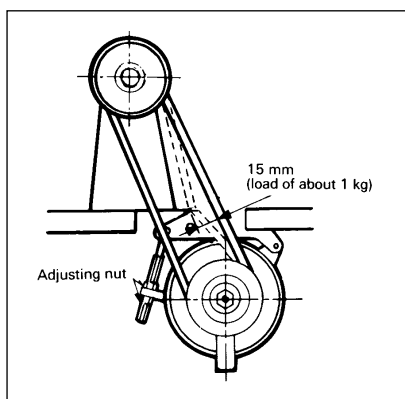

Fig.1
6、Installing the belt (Fig.1):